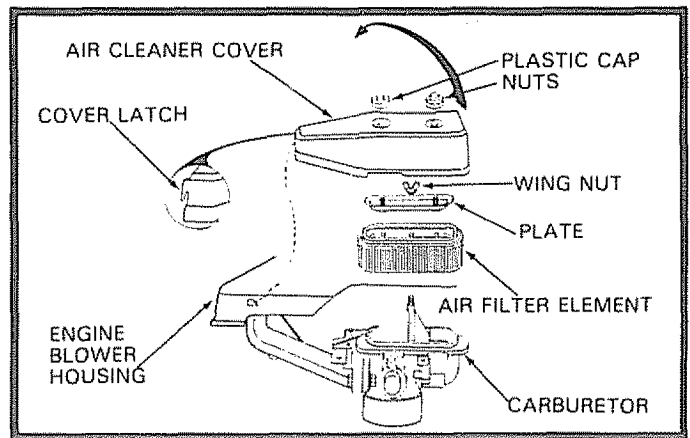

FIG. 22
- Loosen and remove the two (2) Plastic Cap Nuts on top of Air Cleaner Cover (See Fig. 22).
- Loosen and remove the Wing Nut and Plate holding Filter in place (See Fig. 22).
- Put the two (2) Cap Nuts back and tighten.